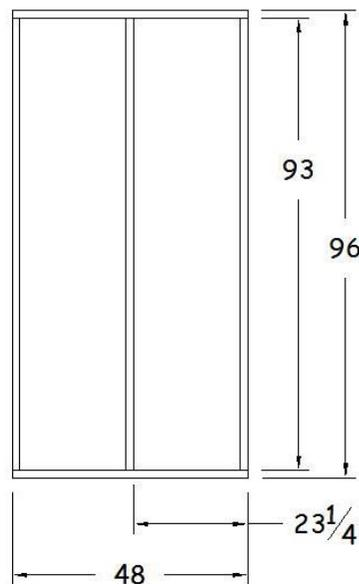

Figure 22-1. Floor Framing - Two Req'd.
4. Assemble each floor section as shown in Figure 22-1 by nailing through the end plates into the end of each floor joist with two 16d nails.